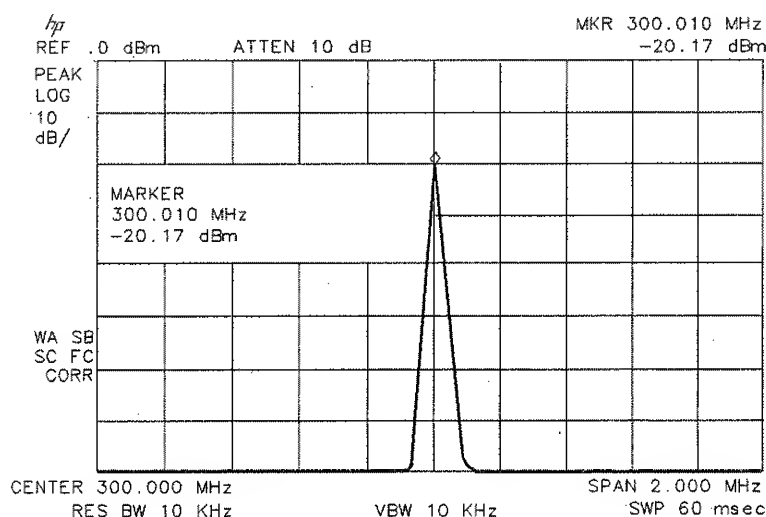

Figure 2-6. Reading the Amplitude and Frequency
5. Determine the amplitude and frequency of the signal. You can either press **PEAK SEARCH** or press **MKR** and move the marker to the signal peak. Read the amplitude and frequency. The display screen should look like the one in Figure 2-6. Frequency is displayed horizontally, and amplitude (power) is displayed vertically.